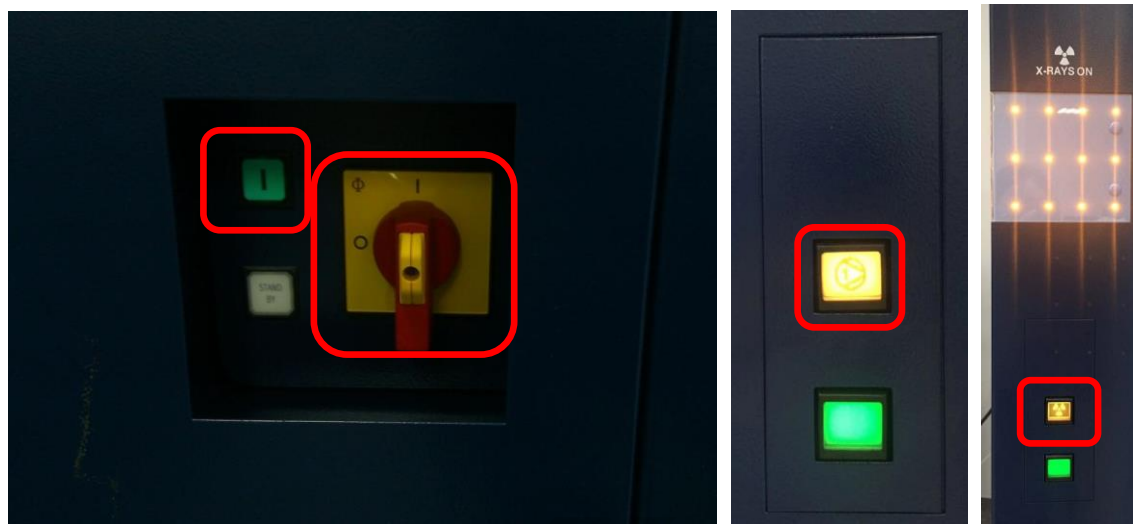

Fig 6-3 Power buttons and indicators
6.5.2 Turn the handle from “O” to “I” at left side of the machine (Fig 6-3), and turn on the green button, so that triggers for initialization; subsequently, the indicator on upper-left control panel turns as white light to “I”; press the top button to power on high voltage, followed with the change of “I” to filament © (indicating of triggering the primary pump). Conditioning the tube is required for long-time shut down and the top button presents as  after conditioning. So the machine is ready for use.